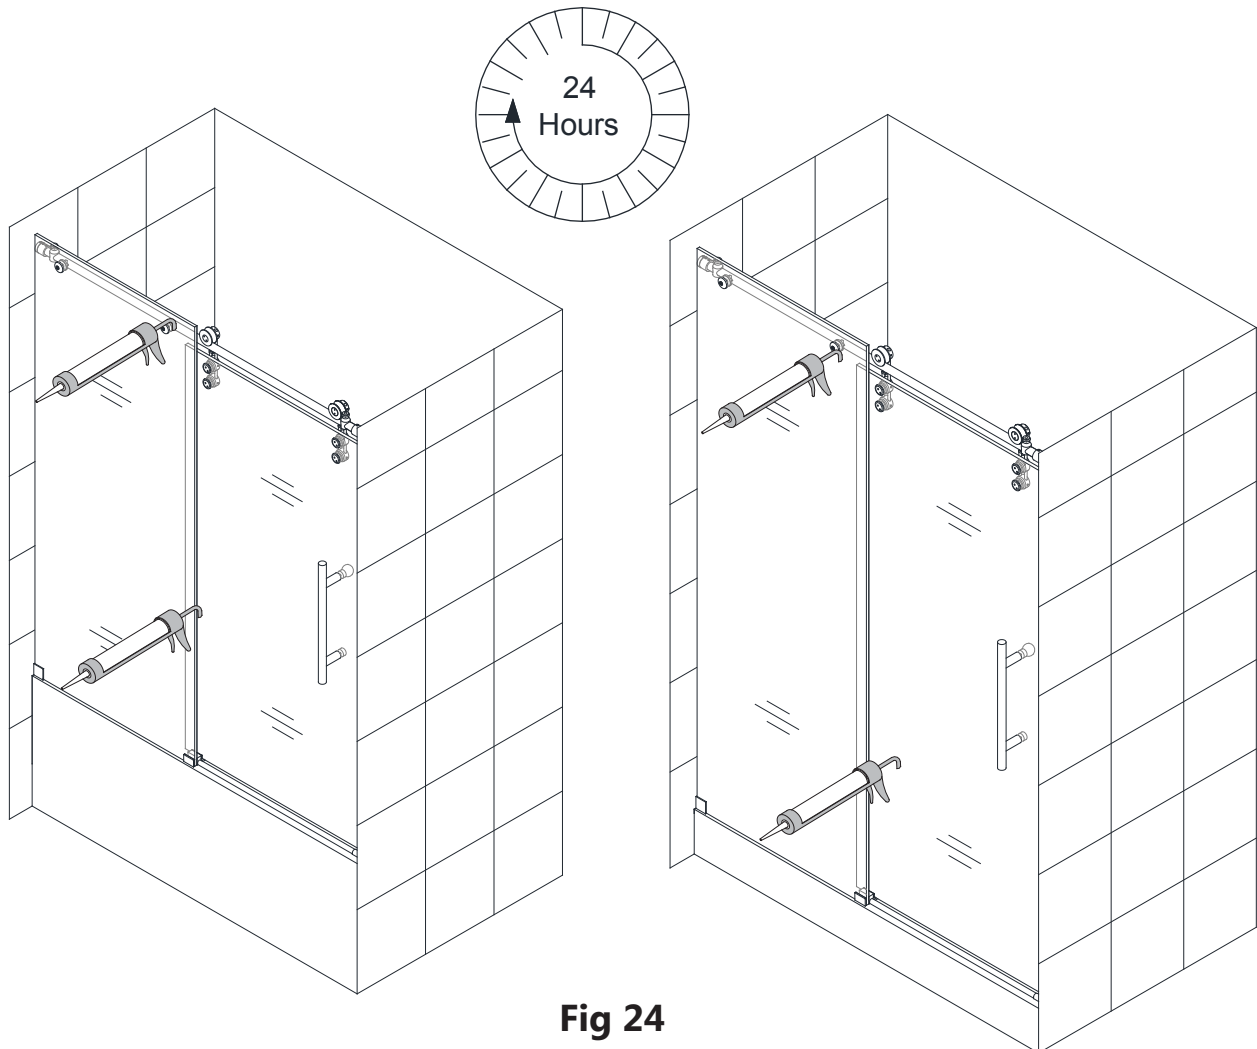

Fig 24
21. Apply a good quality mildew-resistant silicone sealant along the connection of the Stationary glass with the wall and the threshold or tub deck. (**Fig. 24**)